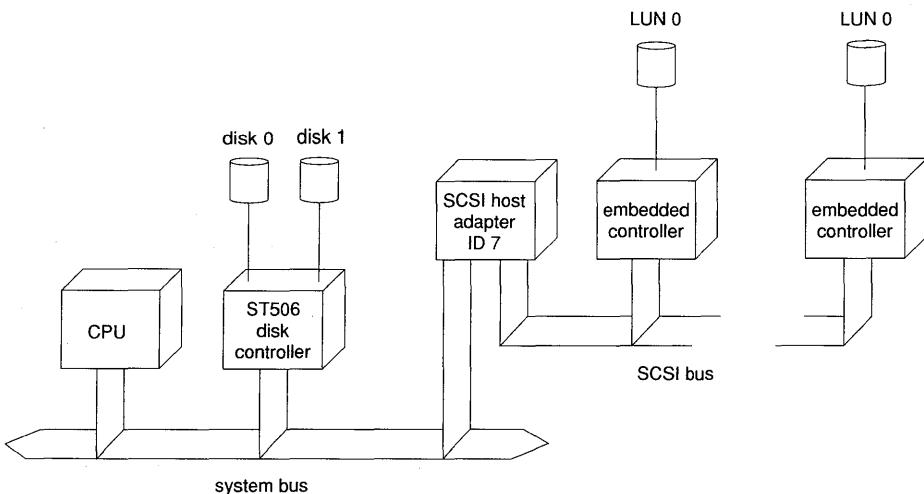

Figure 18-1 Example of a mixed ST506-interface disk controller and SCSI configuration
- **Root disk on an IDE, EIDE, or ESDI controller:** ISA, EISA, and MCA bus machines can support up to two IDE or EIDE controllers. Each controller can support two disk drives. SCSI host adapters can also be added and configured as shown in Figure 18-1 (page 325).